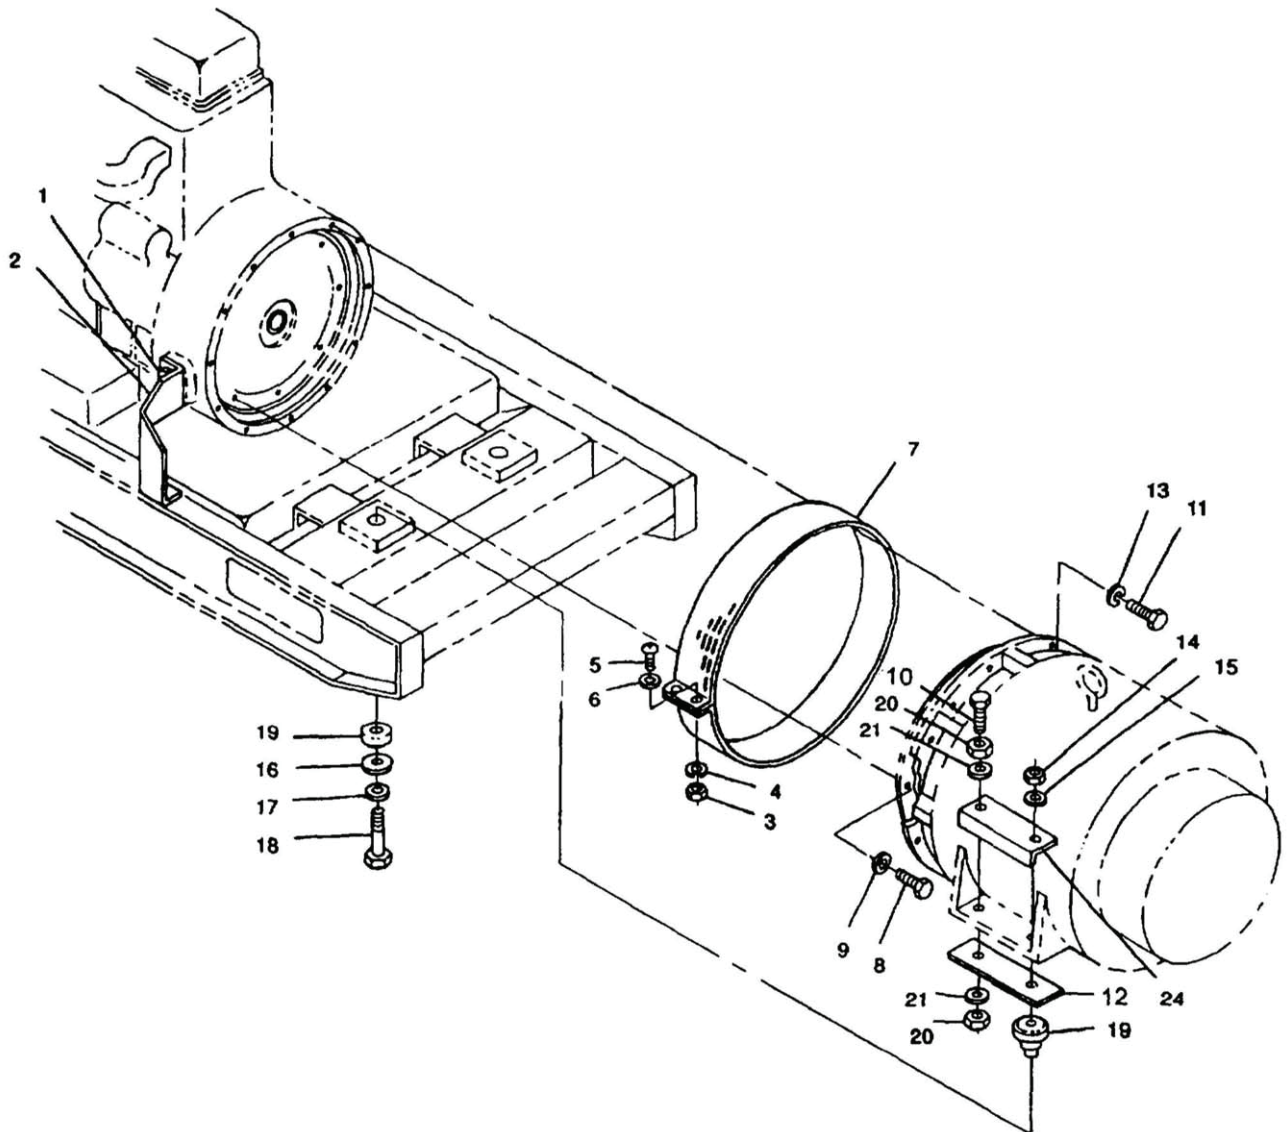

Figure 1. Generator Assembly Removal.
1. Position generator shock mounts (Figure 1, Item 19) in skid base.
2. Install angles (24) and plates (12) on generator with bolts (10), washers (21), and nuts (20).